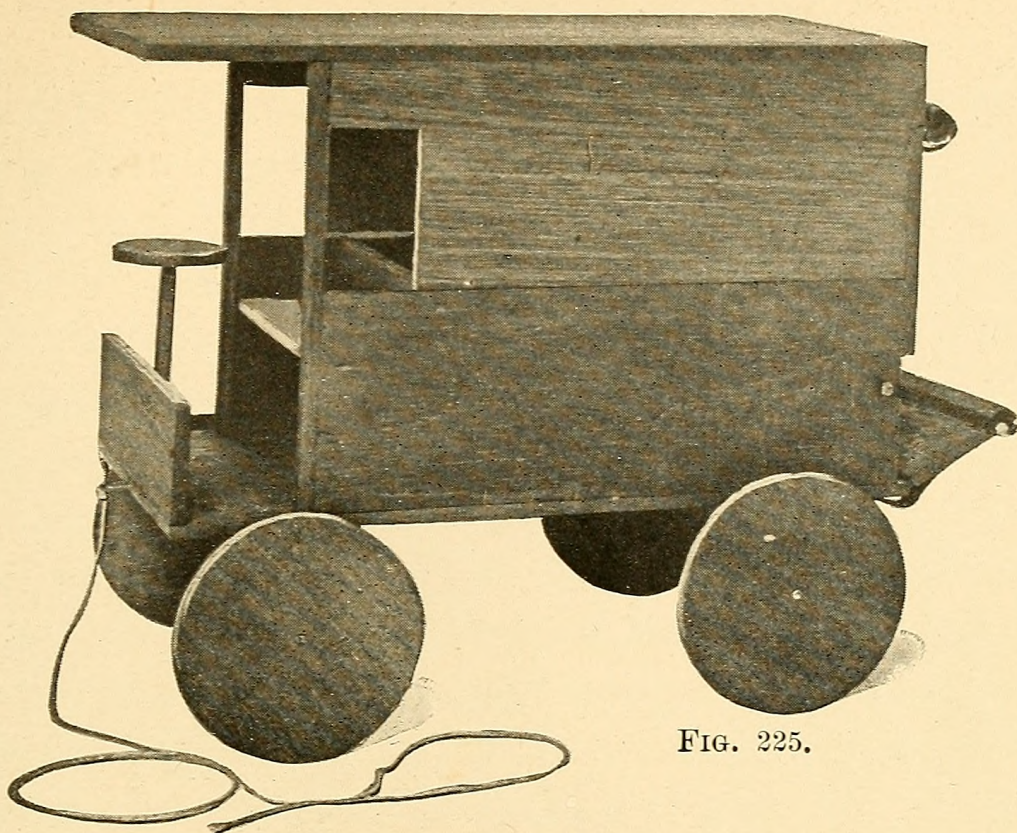

FIG. 225.
**The Auto Delivery-wagon** (Figs. 225 and 226) requires two boxes about  $8\frac{1}{2}$  inches long, 5 inches wide, and  $2\frac{1}{2}$  inches deep. You will see by looking at the illustrations that one box is inverted upon the other. Before fasten-